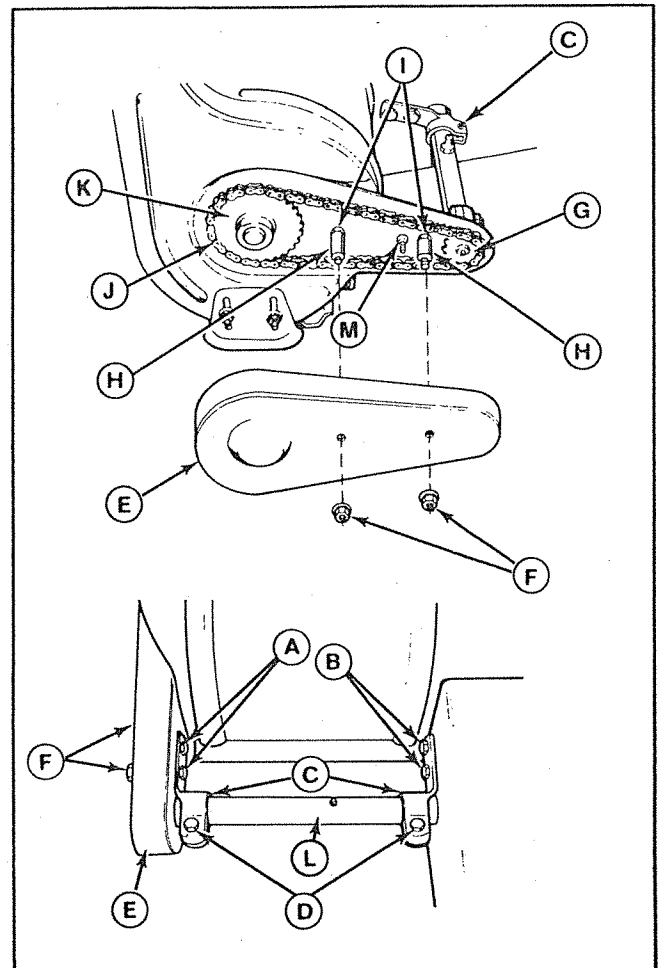

Figure 10. Drive Chain
1. Remove the chain guard (E, figure 10) by removing the two nuts (F).
3. There should be no slack in the chain and the sprockets (G & K) should be aligned. The drive shaft housing (L) should be parallel with the auger housing. To adjust, proceed as follows.
- a. Loosen the two screws (A) and two nuts (B).
- b. Pull rearward on the drive shaft housing (L) until all slack is removed from chain. With drive shaft housing parallel to auger housing and sprockets aligned, retighten the two screws (A) and nuts (B). Be sure to hold nuts while tightening screws (A) and hold screws (inside housing) while tightening nuts (B). Torque to 40-45 ft. lbs.